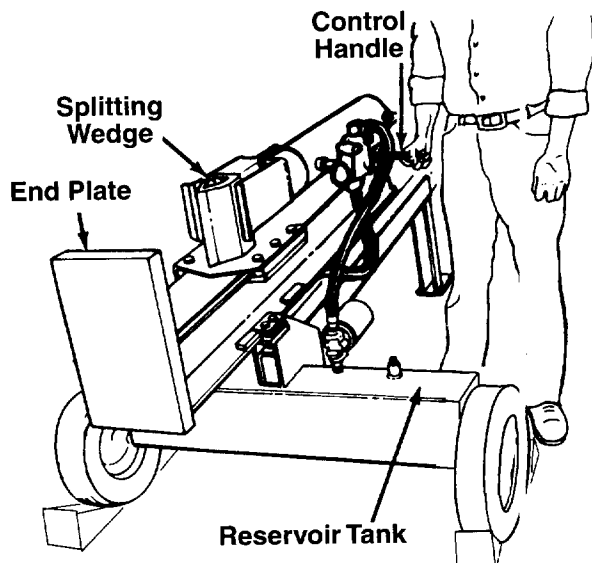

FIGURE 13.—Horizontal Position
- Horizontal—Stand behind the reservoir tank. Operate the control handle with your right hand and stabilize the log, if necessary, with your left hand. See figure 13.